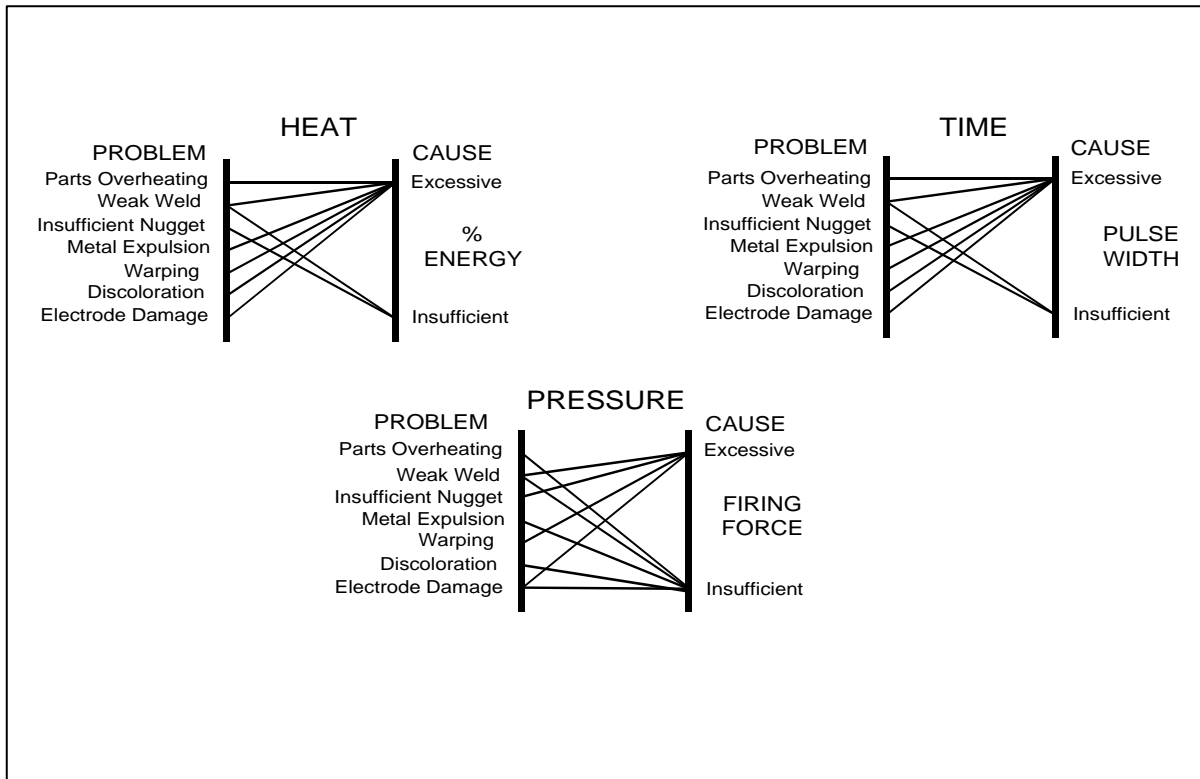

Figure 5-1. Effects of Excessive or Insufficient Heat, Time and Pressure
The effects of excessive or insufficient heat, time and pressure on a weld are illustrated in figure 5-1. You should consider the interaction between these basic welding parameters when developing a weld schedule.
- 2 Set the force adjustment knob on the weld head to set the firing force. Start at a moderate force setting, 3 on a Unitek Peco Weld Head. Figure 5-1 illustrates the effect of electrode force on the work piece.